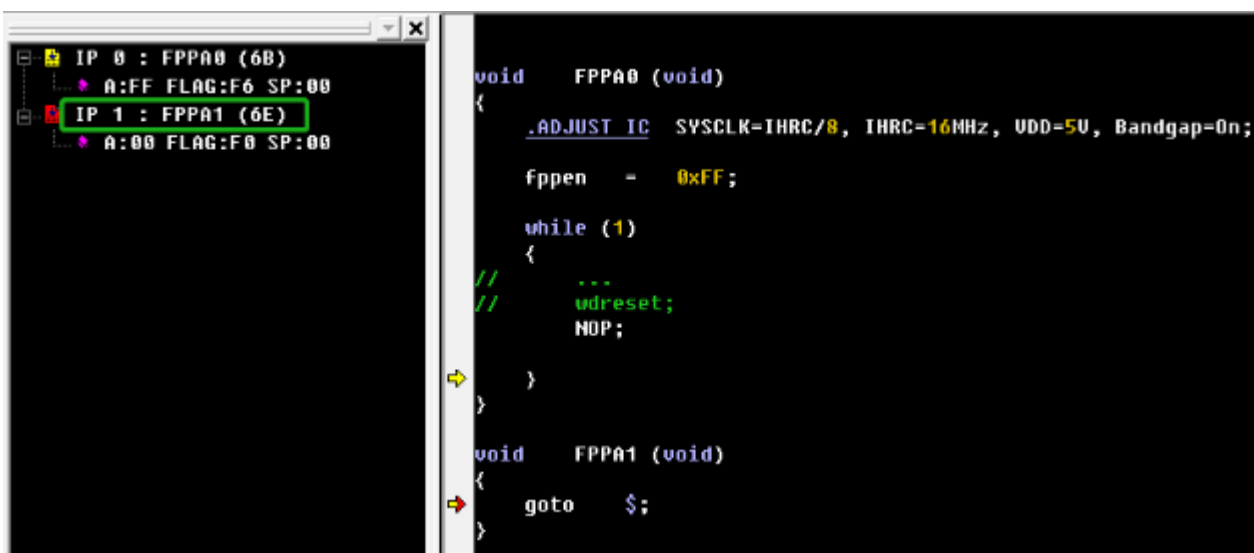
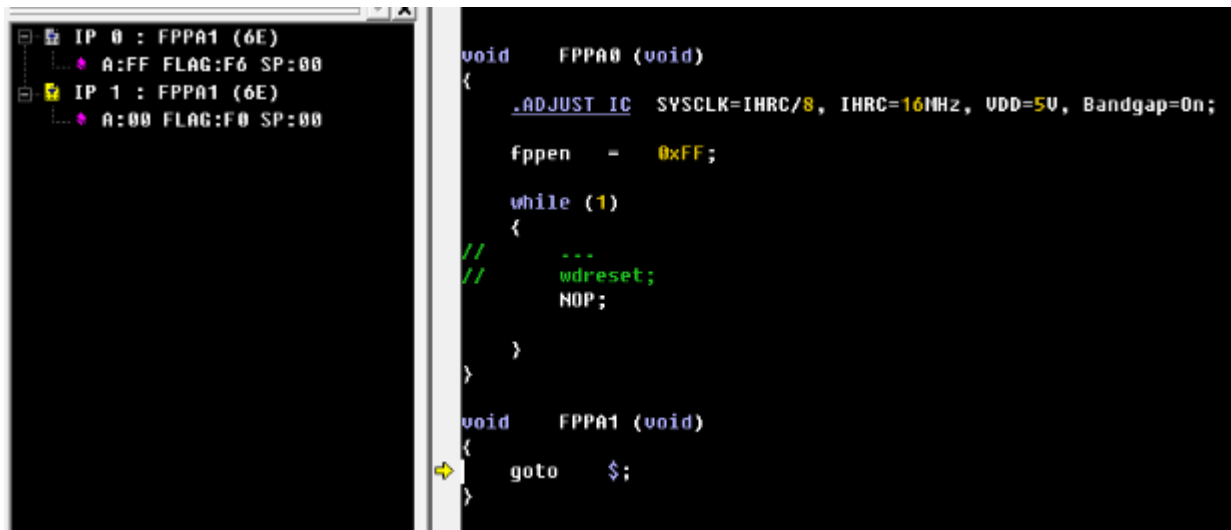

Fig.4-14. The information of switching FPPA in Single Trap mode
Fig.4-15. Information after switching FPPA
- In Single Trap mode, you can only monitor one FPPA at a time. If you want to switch the FPPA to the other, just double click it, as shown in figure 4-14.
The explanation of figure 4-14: IP 0 is the FPPA that be executed(the position where  stopped in), IP 1 is the other FPPA that will be executed next time(the position where  stopped in). Click **Single**(F11) based on the current state to monitor IP 1. As shown in figure 4-15.